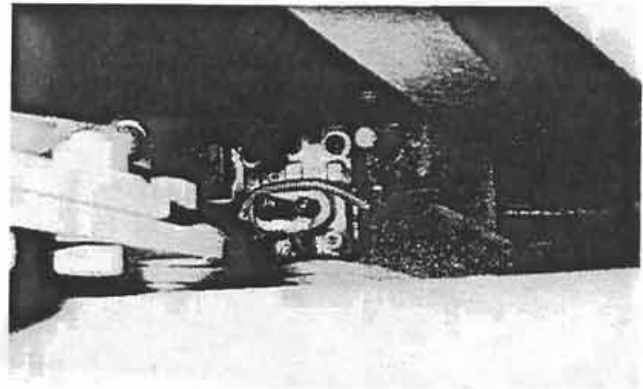

Figure 14:
2. Mount the individual caliper castings to the brake mount weldment (Fig. 14). This will ensure alignment of the brake slide rod bores before installing the three 12-point cap screws thus eliminating possible binding on the brake slide rods. Torque the three 12-point cap screws to 34 lb. ft. (4.70 Kg/M).